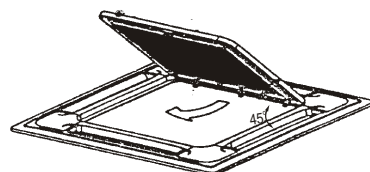

Fig. 22
- b. Draw the grid up to an angle of about  $30^\circ$ , and remove it. (Refer to Fig.22)